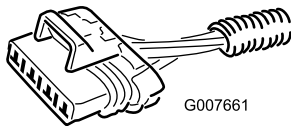

Figure 1
2. Look for a branch of the machine wiring harness with a 4-socket electrical connector labeled **Foam Marker** (Figure 1).